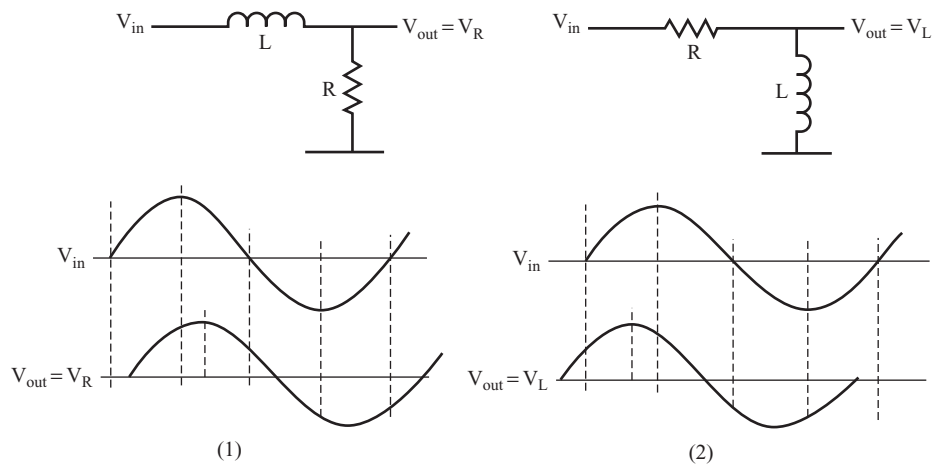

FIGURE 6.51
**34** Filter circuits that use inductors (such as those shown in Figure 6.51) produce a phase shift in the output signal, just as filter circuits containing capacitors do. You can see the shifts for the circuits shown in Figure 6.51 by comparing the input and output waveforms shown below the circuit diagrams.
**35** Figure 6.52 shows a vector diagram for both the circuits shown in Figure 6.51. The current through the inductor lags the voltage across the inductor by 90 degrees.